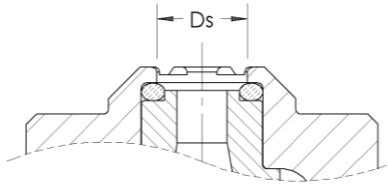

Figure 21: Critical Seat Dimension
2. Referring to Figure 21, measure the diameter D_s of the nozzle. This diameter must be in the range of values listed in **Table 3**.